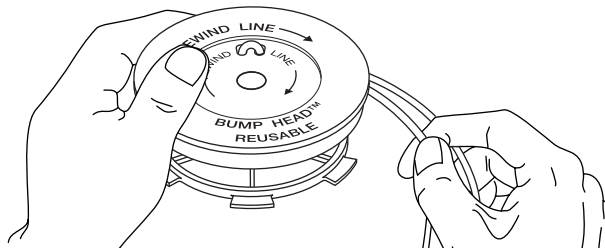

Fig. 17
- Wind the lines in tight even layers, onto the reel (Fig. 17). Wind the line in the direction indicated on the inner reel. Place your index finger between the two lines to stop the lines from overlapping. Do not overlap the ends of the line. Proceed to step 11.